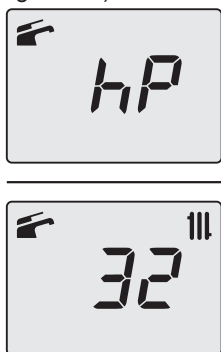

Fig. 10.23
- By pressing 13 (Fig. 10.19) it is possible to change power in flue sweep mode: with the letters **hP** on the LCD display which alternate between the heated water temperature (i.e.**32**), we are in the "flue sweep function" at the minimum power during heating (Fig. 10.23).